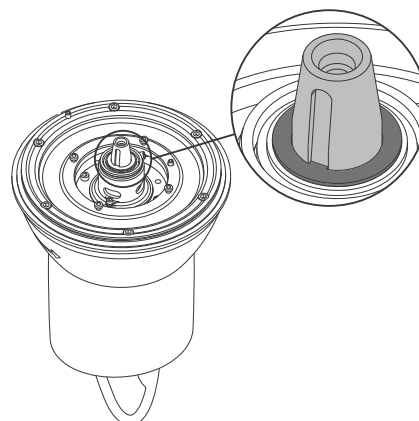
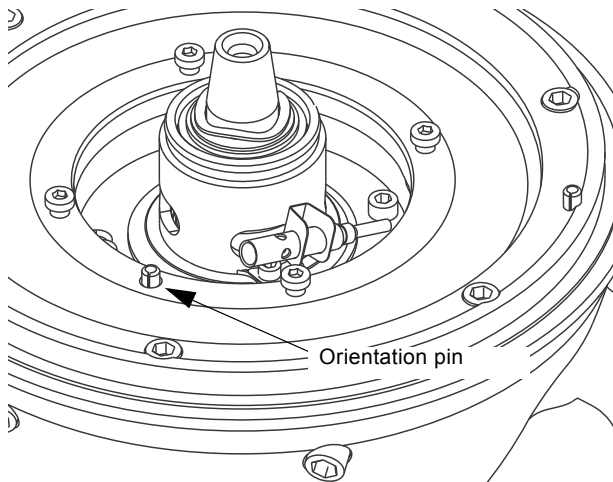

Fig. 18 Shaft seal engaged with shaft keyway
Fig. 20 Position of cover for oil chamber
2. Lubricate the two O-rings (106) of the shaft seal with Rocol Sapphire Aqua-Sil and fit them on the shaft seal (105).
3. Slide the shaft seal (105) gently over the shaft. The shaft seal driver must engage with the shaft keyway. See fig. 18.
- Fit the other screw (186) in the other fixing hole of the shaft seal and tighten both screws. See section 6. *Tightening torques and lubricants*.
- Lubricate the O-ring (107) with Rocol Sapphire Aqua-Sil and fit it on the oil chamber cover (58).
- Fit the cover for oil chamber (58) according to the orientation pin, see fig. 20, and cross-tighten the screws (187). See section 6. *Tightening torques and lubricants*.
- Lubricate the two O-rings (106) of the shaft seal with Rocol Sapphire Aqua-Sil and fit them on shaft seal (105).
- Slide the shaft seal (105) gently over the shaft. The shaft seal driver must engage with the shaft keyway. See fig. 18.
- Fit the screws (186) in the fixing holes of the shaft seal and tighten them. See section 6. *Tightening torques and lubricants*.
- Lubricate the O-ring (107) with Rocol Sapphire Aqua-Sil and fit it on the cover for oil chamber (58).
- Fit the cover for oil chamber (58) according to the orientation pin (see fig. 20), and cross-tighten the screws (187). See section 6. *Tightening torques and lubricants*.